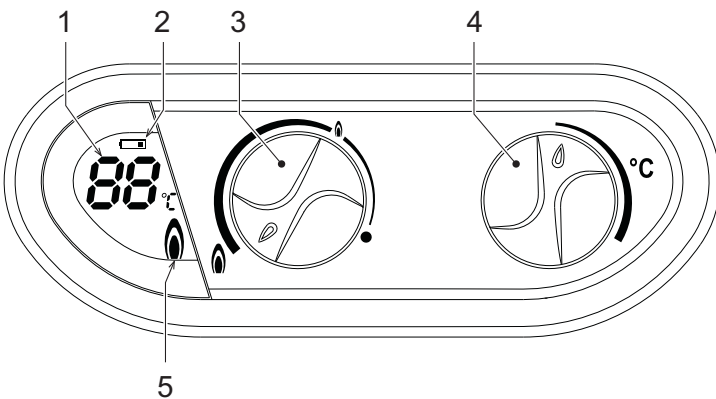

fig. 1 - Control panel
##### Panel - legend fig. 1
Use the power adjustment knob (ref. 3 - fig. 1) to select the water heater power, minimum or maximum and intermediate positions depending on the required water heating level. Turn the knob anticlockwise and the unit heats the water at maximum power. If the temperature is too high, for example in the summer, or when a reduced flow of not very hot water is necessary, turn the knob clockwise. This reduces the power (and gas consumption). In the position ● the unit is deactivated.